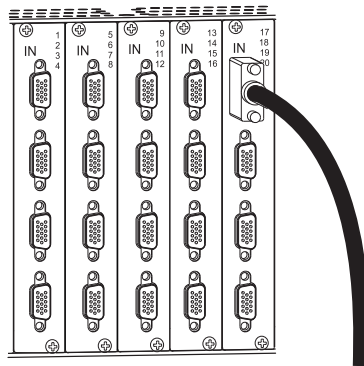

FIG. 34 Fasten cable onto input or output HD-15 connector
1. Fasten the cables onto the input and output HD-15 connectors (FIG. 34).